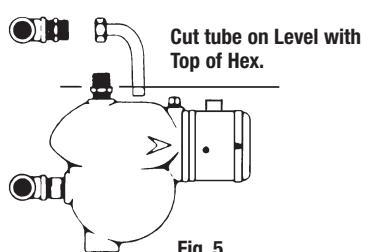

Fig. 5
5. Hold tube bend in position, Fig. 5, and mark tube on level with top of hex on compression coupling. Cut off tube at this mark.